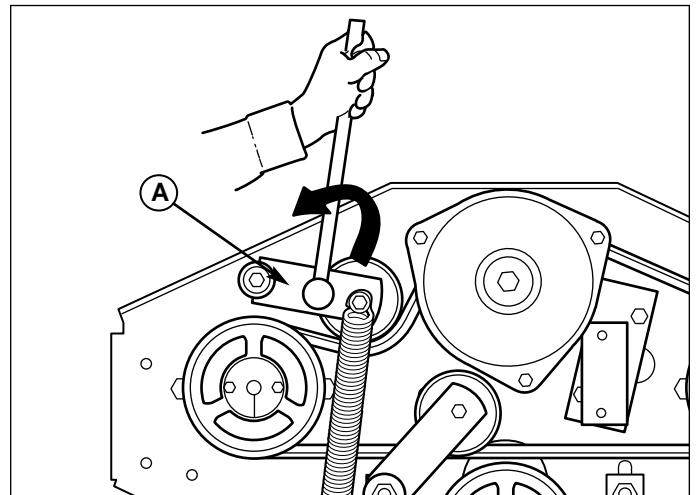

Figure 2. Pump Drive Belt Removal
5. Using a 1/2" breaker bar, place the square end in the square hole located in the middle of the idler arm (A, Figures 2). Carefully rotate the breaker bar counter-clockwise, which will relieve the tension on the belts.